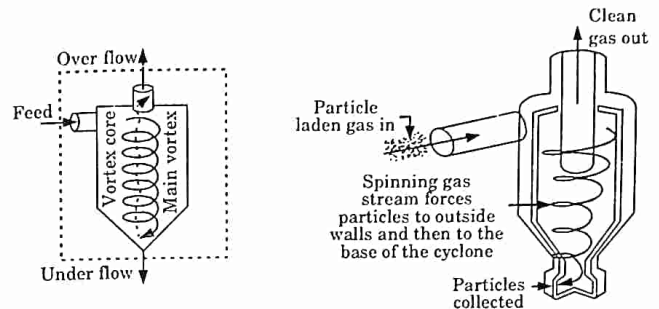

Fig. 3.5.1. Cyclone method.
11. A dynamic precipitator Fig. 3.5.1 imparts centrifugal force to the entering gas with the help of rotating vanes, and is, thus, about 7 times more effective than an ordinary cyclone.